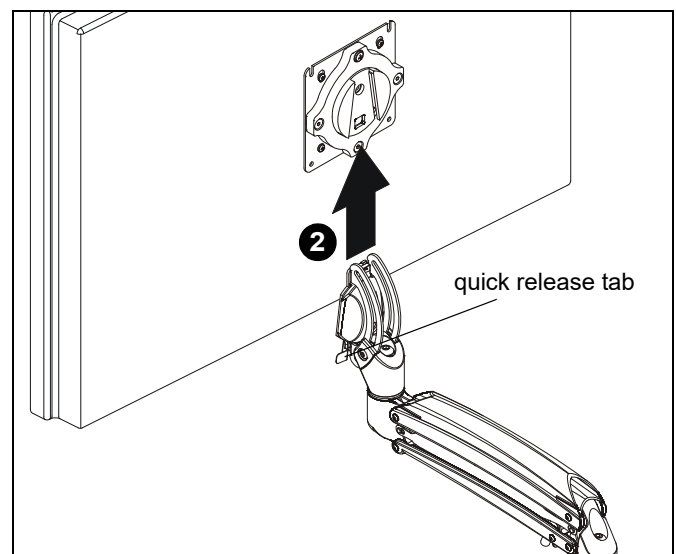

Figure 16
WARNING: Only remove display from mount when the display can be lifted up from the mount! DO NOT remove display unless the display is in the upright position! (See Figure 16)
2. Remove quick release faceplate from mount by pulling quick release lever and sliding faceplate off mount. (See Figure 16)